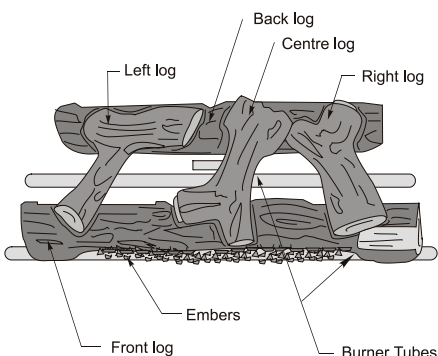

Figure 24b. Proper log placement . (No embers on ME38-ODV2)
4. Place the top logs in position as shown in figure 24b.